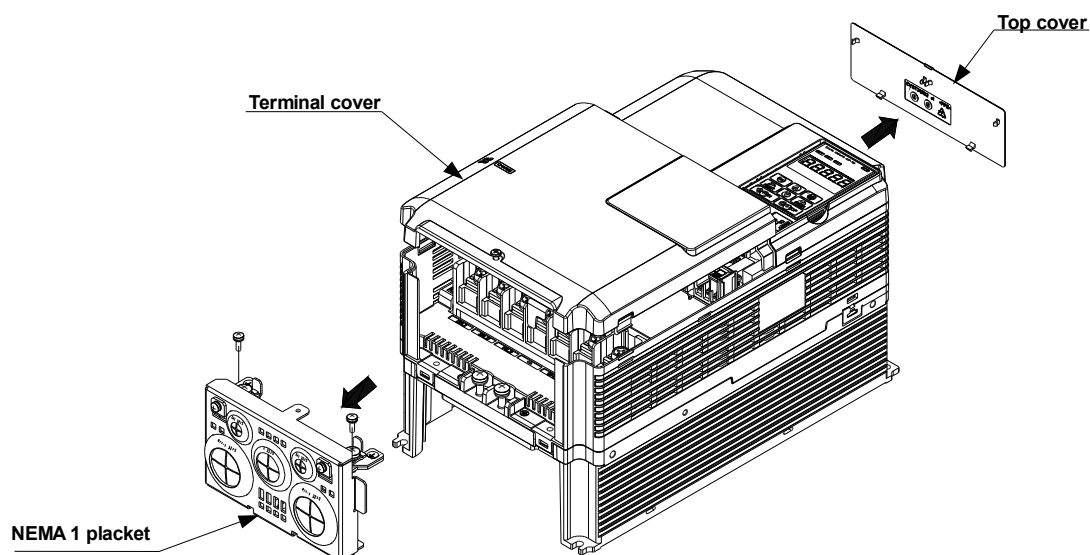

Figure 6: Step 1 - 2A0081
1. Remove top cover, terminal cover and NEMA 1 placket (Figure 6).